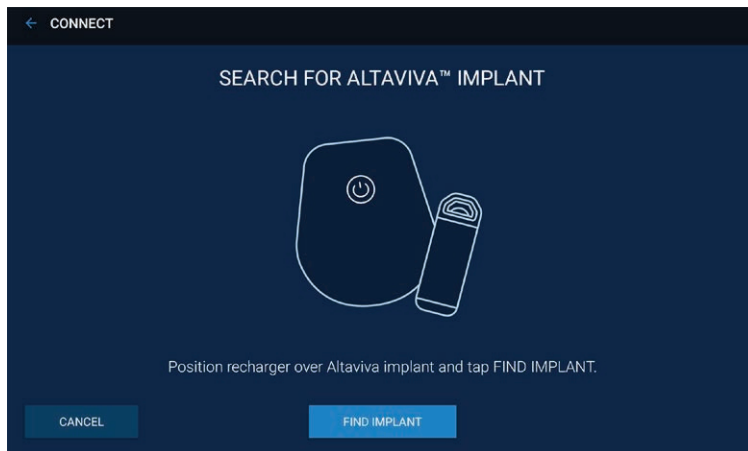

Figure 26. Search for Altaviva implant screen
4. Tap **FIND IMPLANT** (Figure 26).